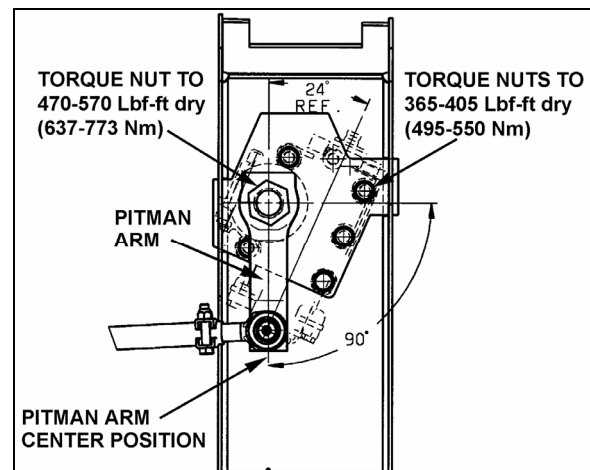

FIGURE 7: PITMAN ARM ADJUSTMENT
2. Using a protractor, check the angle of the pitman arm (refer to Fig. 7 for details).